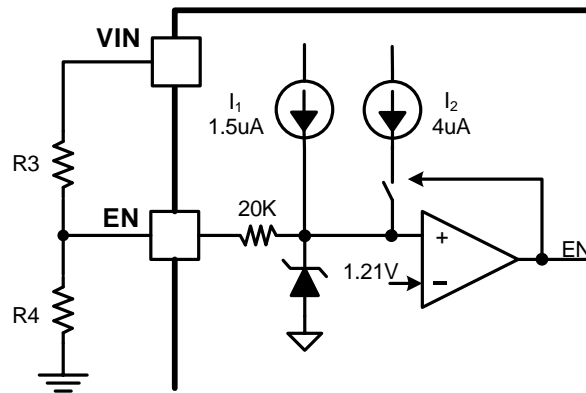

Figure 3. Adjustable VIN UVLO
An internal 1.5uA pull up current source connected from internal LDO power rail to EN pin guarantees that floating EN pin automatically enables the device. For the application requiring higher VIN UVLO voltage than the default setup, there is a 4uA hysteresis pull up current source on EN pin which configures the VIN UVLO voltage with an off-chip resistor divider R3 and R4, shown in Figure 3. The resistor divider R3 and R4 are calculated by equation (3) and (4).